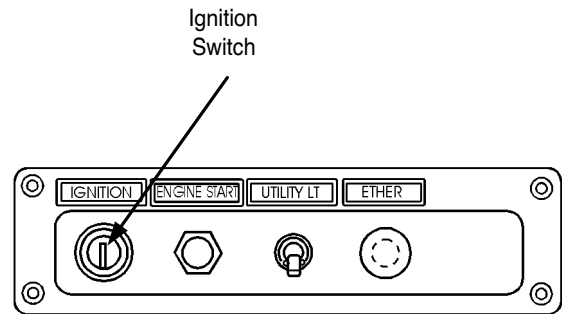

Figure 2. Ignition Switch
- Access ignition switch wires (page 3-100.1 and Figure 2).